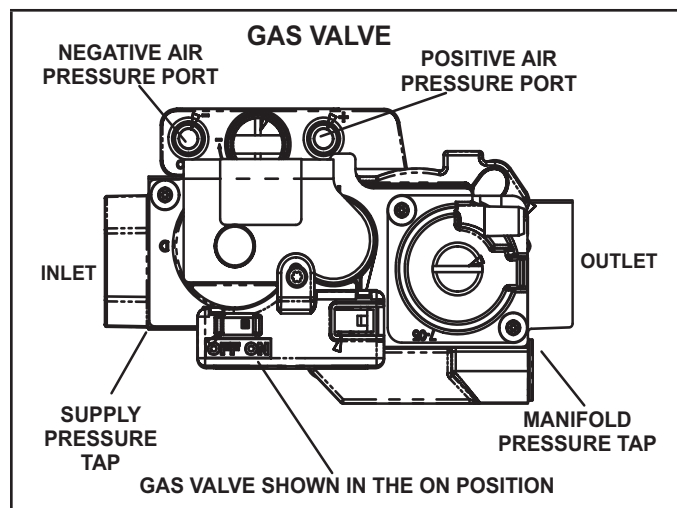

FIGURE 51
Gas Valve Operation (FIGURE 51)
- 6 - Move the gas valve switch to the OFF position. See FIGURE 51.
- 8 - Move gas valve switch to the ON position. See FIGURE 51. Do not force.